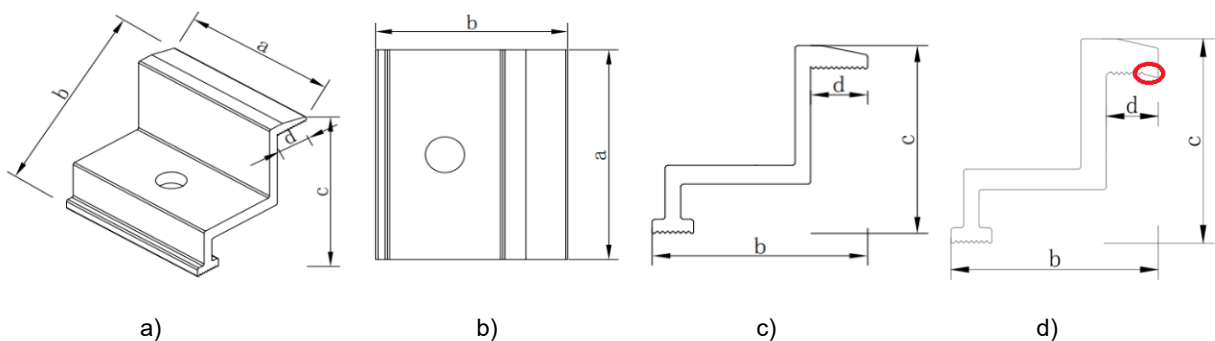

Figure 11. Recommended clamp schematic.
The clamps must not be installed in contact with the front glass of the Module and must not deform, or exercise excessive pressure on, the Module frame. Recommended clamp schematic shown as follows (see Figure 11). Ensure that the clamps do not create a shadow on the Module. Under no circumstances may the frame be altered. When choosing the mounting method for the clamps, make sure that there are at least four clamps on each Module. Different mounting positions of the clamps, as well as the way rails support the modules, determine the maximum load capacity of the Module. Table 7 to Table 9 as follows, show the different mounting methods and the positions of the clamps and rails for the different mounting methods. The distance between the installation position of the long-side clamp and the edge is represented by L in Table 7 to Table 9. The distance between the installation position of the short-side clamp and the edge is represented by S in Table 8 and Table 9.
- Oversized Modules (size over 2.2 x 1.3 m) are recommended to be mounted with the camber clamps shown in Figure 11 - d), which enables the clamps to fit better with the frame and provide more stable performance under extreme environmental conditions.